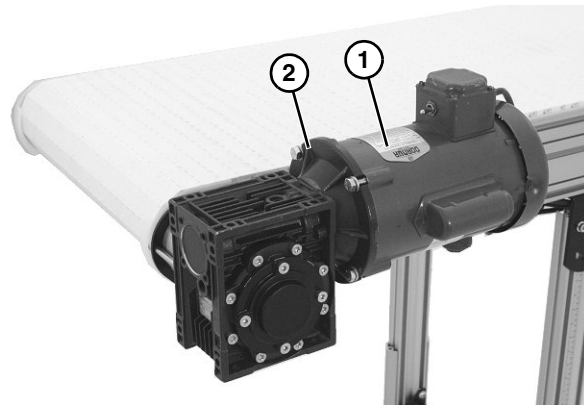

Figure 24
1. Attach the motor (**Figure 24, item 1**) to the gear reducer (**Figure 24, item 2**). (End Drive shown below.)